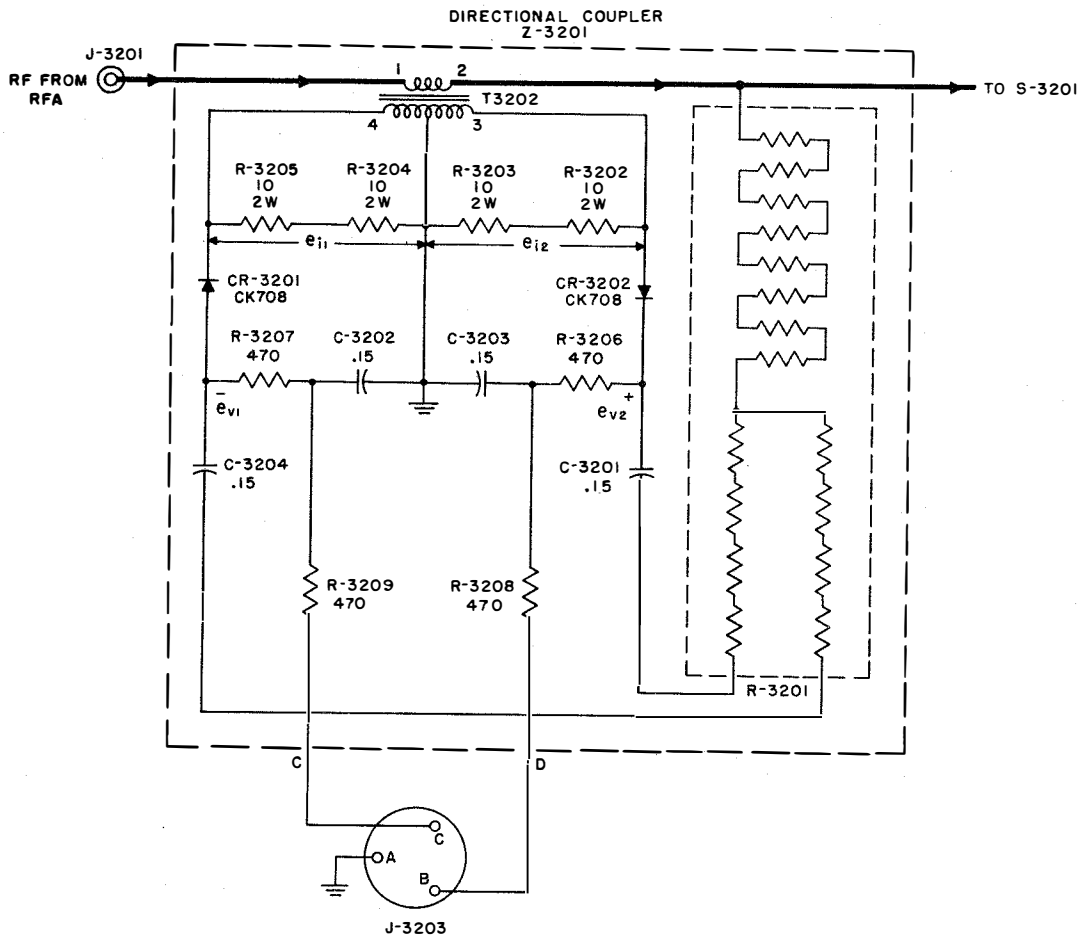

Figure 2-116. Standing-Wave Ratio Monitor Circuit, Simplified Schematic
b. STANDING-WAVE RATIO MONITOR CIRCUIT.—The function of the standing-wave ratio (SWR) monitor circuit is to detect and monitor the standing-wave ratio present in the r-f transmission line at the output of the radio frequency amplifier. The components of the SWR monitor circuit together form a unit designated Directional Coupler Z-3201 (figure 2-116).